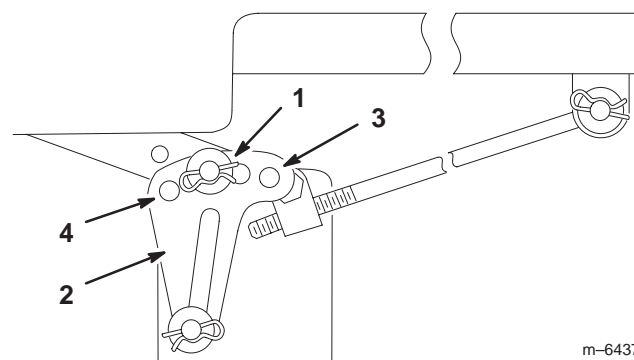

Figure 39
6. Remove the hairpin cotter and washer from the leveling bracket (Fig. 39).
7. To level the blade(s), reposition the leveling bracket(s) in a different hole and install the washer and hairpin cotter. (Fig. 39 and 40). A front hole lowers the blade height and a rear hole raises its height. Adjust both sides as required.